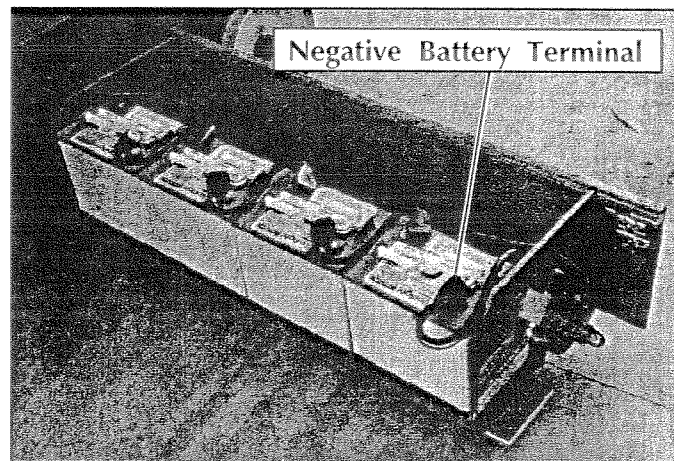

Figure 2-1: Battery Module
4. Connect the negative battery lead terminal (Figure 2-1).
2. Disconnect the battery negative (-) lead from the battery terminal (Figure 2-1).